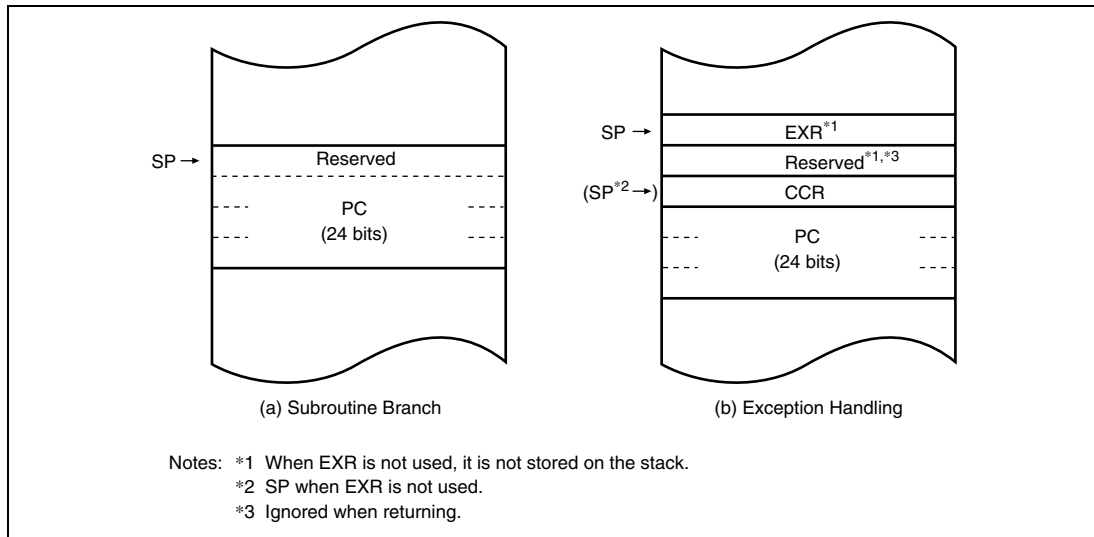

Figure 2.4 Stack Structure in Advanced Mode
In advanced mode, when the program counter (PC) is pushed onto the stack in a subroutine call, and the PC, condition-code register (CCR), and extended control register (EXR) are pushed onto the stack in exception handling, they are stored as shown in figure 2.4. EXR is not pushed onto the stack in interrupt control mode 0. For details, see section 4, Exception Handling.